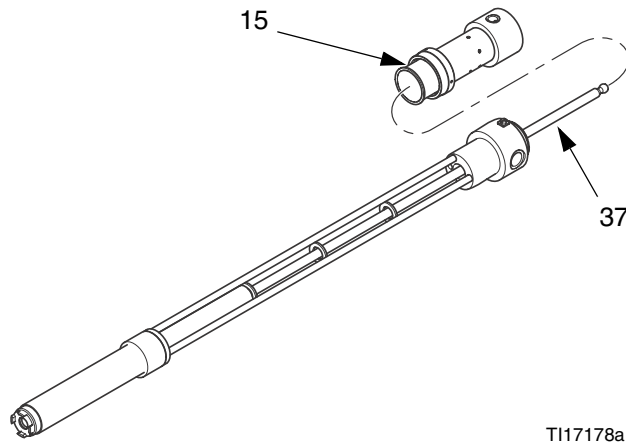

FIG. 13
6. Use a turning motion to maneuver and install the pump connecting rod (37) and piston back into the pump frame (36). See FIG. 13 on page 17.